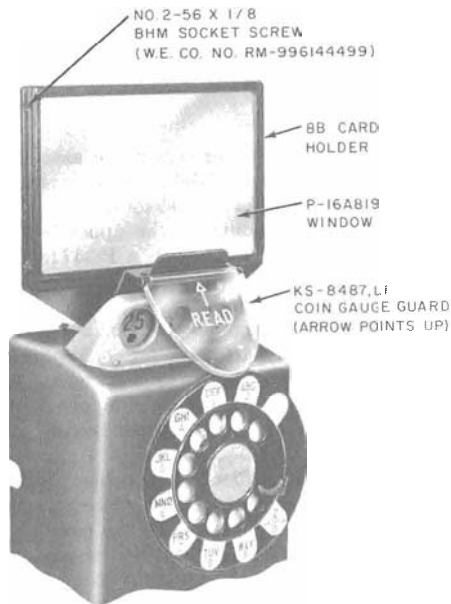

Fig. 9—Dial Type Coin Collector Equipped with Coin Gauge Guard
**2.13** The 8-type card holders mount on top of the housing behind the coin gauge (Fig. 9). Three P81J700 slotless machine screws, three P-92383 hex nuts, and three P-423631 lockwashers hold the card holder in place.
**2.15** Postpay coin collectors without coin-release pushbutton mechanisms may be equipped with a KS-8487, List 1 coin gauge guard (Fig. 9) or a KS-8487, List 2 coin gauge guard (Fig. 8). Coin gauge guards are designed to alert the customer to read the instructions before depositing coins. The device consists of a mounting bracket and a transparent hinged guard with the word READ and a vertical red arrow. The guard must be raised before depositing coins.